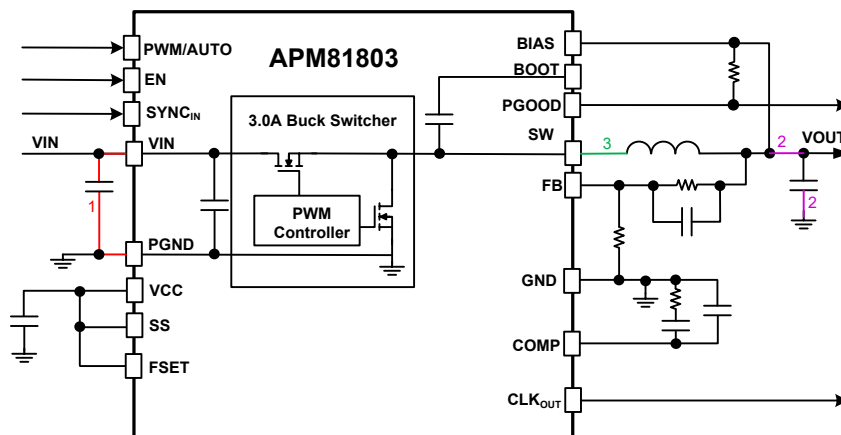

Figure 13: PCB Layout Critical Paths
The APM81803 is designed to minimize electromagnetic (EM) emissions when proper PCB layout techniques are adopted. A good PCB layout is also critical for the APM81803 to provide clean and stable output voltages. Design guidelines for EMI/EMC-aware PCB layout and minimum $R_{\theta JA}$ are presented below. Figure 13 shows a typical application schematic of a synchronous buck regulator IC with critical power paths/loops.
- Place the ceramic input capacitors as close as possible to the VIN pin and PGND pins to make the loop area minimal, and the traces of the input capacitors to VIN pin should be short and wide to minimize the inductance. This critical loop is shown as trace 1 in Figure 13. The bulk/electrolytic input capacitor can be located further away from VIN pin. The input capacitors and APM81803 IC should be on the same side of the board with traces on the same layer.
- Place the output capacitors relatively close to the output inductor (L_O) and the APM81803. Ideally, the output capacitors, output inductor, and the APM81803 should be on the same layer. Connect the output inductor and the output capacitors with a fairly wide trace. The output capacitors must use a ground plane to make a very low-inductance connection to the PCB GND. These critical connections are shown as trace 2 in Figure 13.
- Place the output inductor (L_O) as close as possible to the SW pin with short and wide traces. This critical trace is shown as trace 3 in Figure 13. The voltage at SW node transitions from 0 V to V_{IN} with a high dv/dt rate. This node is the root cause of many noise issues. It is suggested to minimize the SW copper area to minimize the coupling capacitance between SW